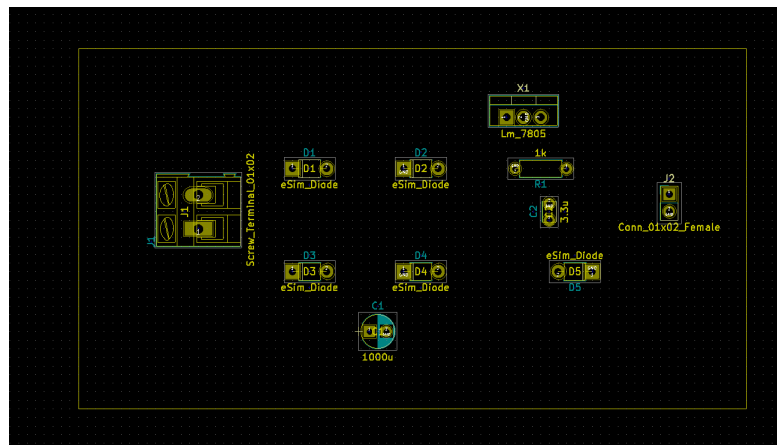

Figure 14.18: Drawing a board outline
4. Click once on the layout editor to start drawing the outline. Drag the cursor either horizontally or vertically. When it comes to the corner of the board, click once and drag the cursor in perpendicular direction. Do this till you reach the origin of the outline, and double click to finish drawing the rectangular outline. Completed outline is as shown in Fig. 14.18.
3. The procedure to place a track between Node 2 of Screw_Terminal_01x02 to Node 1 of D3 diode, as shown in Fig. 14.18 is described in below steps.